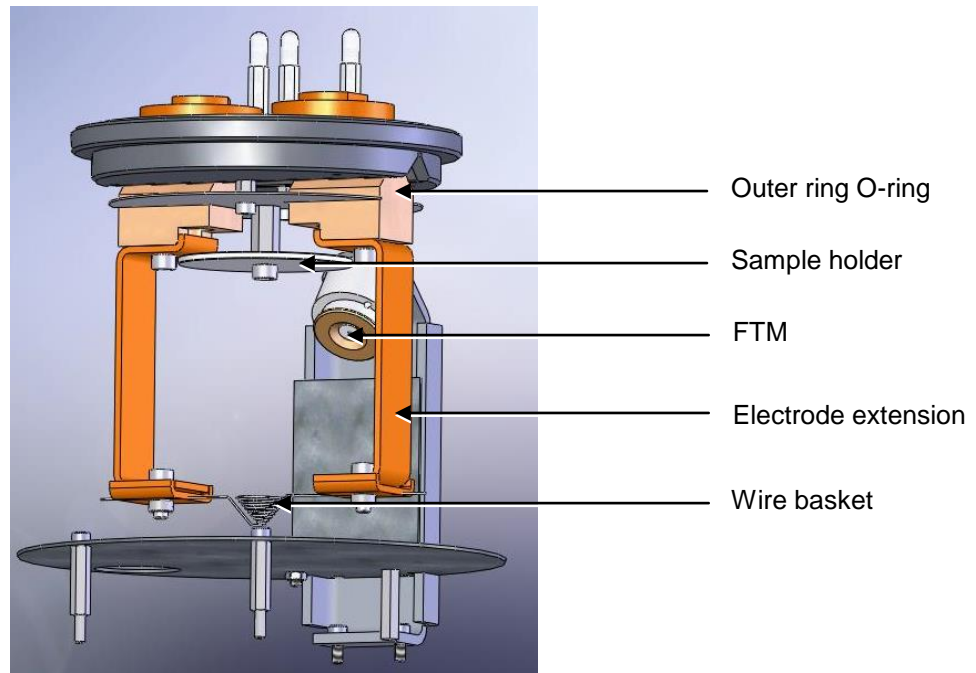

Figure 7-8. Metal evaporation insert adapted for upwards evaporation
1. Remove the two terminal clamps and replace with the electrode extensions (see **Figure 7-8**).
If you want to use an FTM with the metal evaporation insert adapted for upwards evaporation you will need to reposition it as shown in **Figure 7-8**.